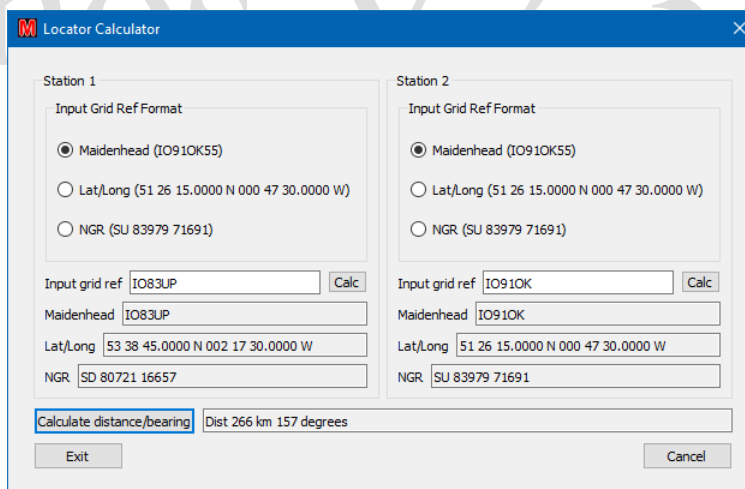

Figure 37 – Locator calculator
Depending on the option selected, you can enter a Locator, a Latitude/Longitude, or a (UK) National Grid Reference39 into the “**Input grid ref**” box (see Figure 37) and convert between the various displays. Selecting “**Calc**” (or hitting “**Return**”) will then calculate and display the other two formats. If both Station details are given it also calculates the distance and bearing from Station 1 to Station 2.